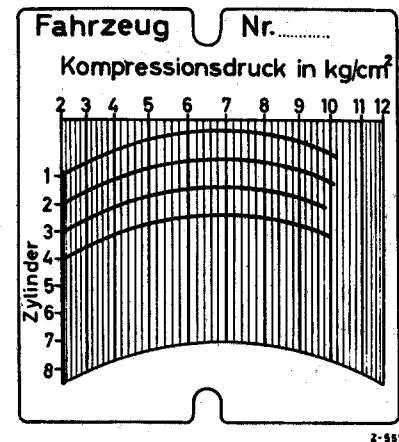

Fig. 01— 3/3
5. Measure all 4 cylinders. The recorder card must be moved to a new position for each cylinder in turn (see operating instructions). Make sure that the duration of turning the engine remains approximately the same for the measurements on all 4 cylinders (Fig. 01— 3/3).